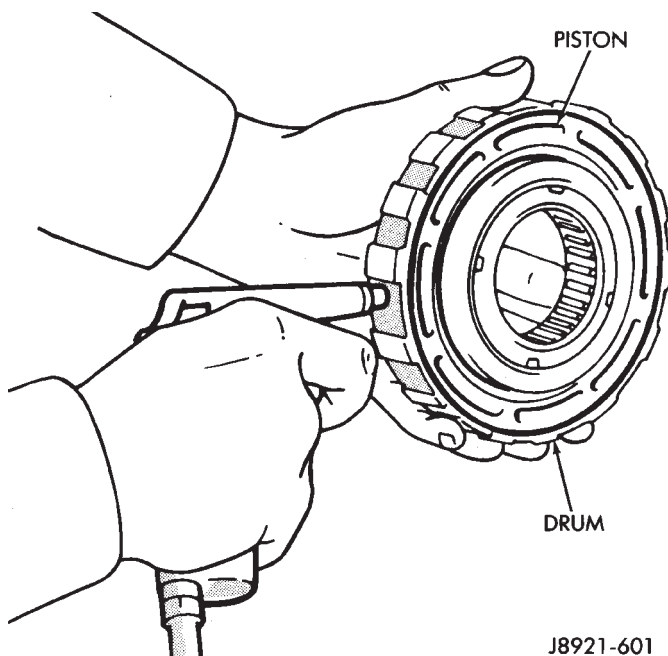

Fig. 7 Checking Second Brake Piston Operation
- (1) Lubricate and install new O-rings on brake piston. Then install brake piston in drum.
- (2) Install return springs and retainer on brake piston.
- (3) Compress return springs with shop press and Compressor Tool 7538. Install piston snap ring and remove brake assembly from press.
- (4) Check brake piston operation with low pressure compressed air (Fig. 7). Apply air pressure through feed hole in drum. Piston should move smoothly when applying and releasing air pressure.